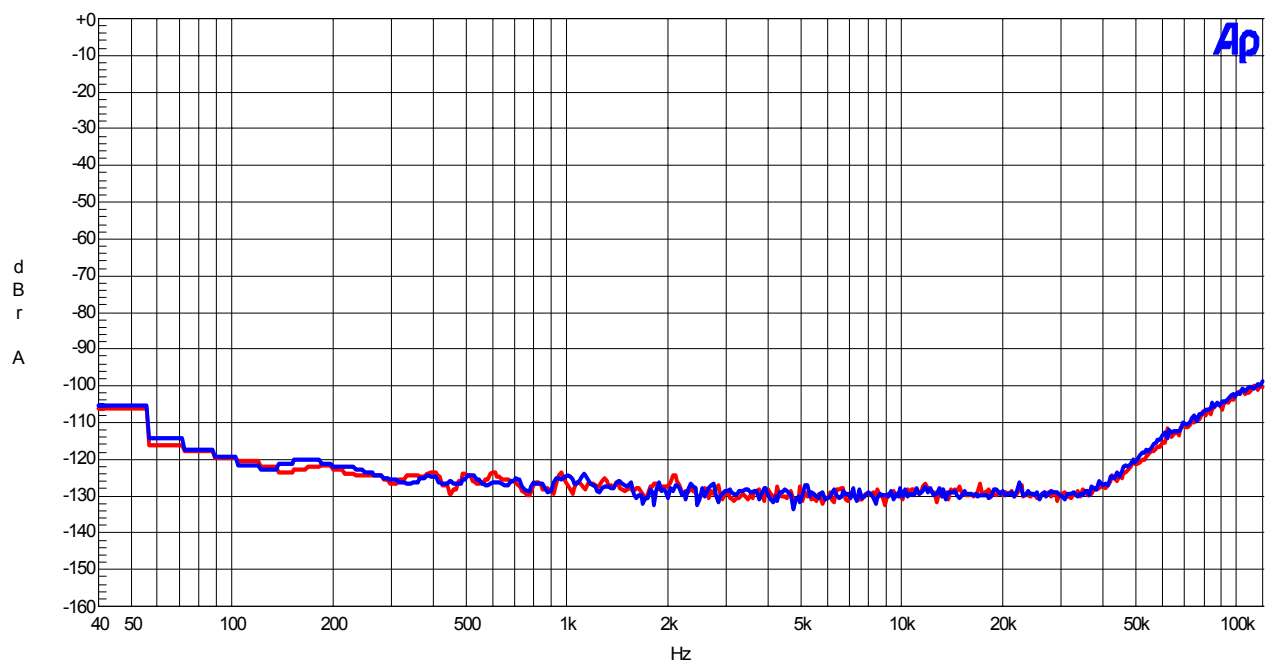

Figure25. FFT (outband noise)
- Figure25. FFT (outband noise)